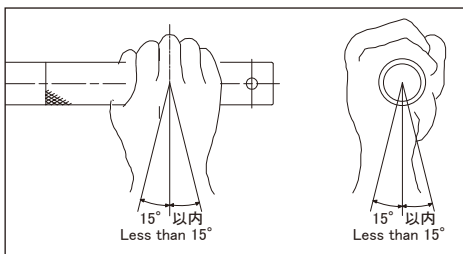

図 5 Fig.5
上下左右とも $\pm 15^\circ$ 以内にする。(図5)
- The loading direction must be at a right angle to the torque wrench. The tolerance is plus/minus 15 degrees of horizontal or vertical deviation. See fig. 5.